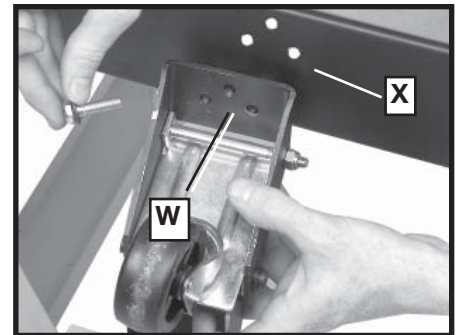

Fig. 23
Assemble the Foot Lever to the base by lining up the three holes in the Foot Lever (W) Fig. 23 with the three holes in the base (X) Fig. For each hole, place an M8 Flat Washer on an M8 x 20 Hex Head Screw and insert screw into hole. Then fasten to base by placing an M8 Flat Washer, M8 Lock Washer and M8 Hex Nut onto the screw and tighten.